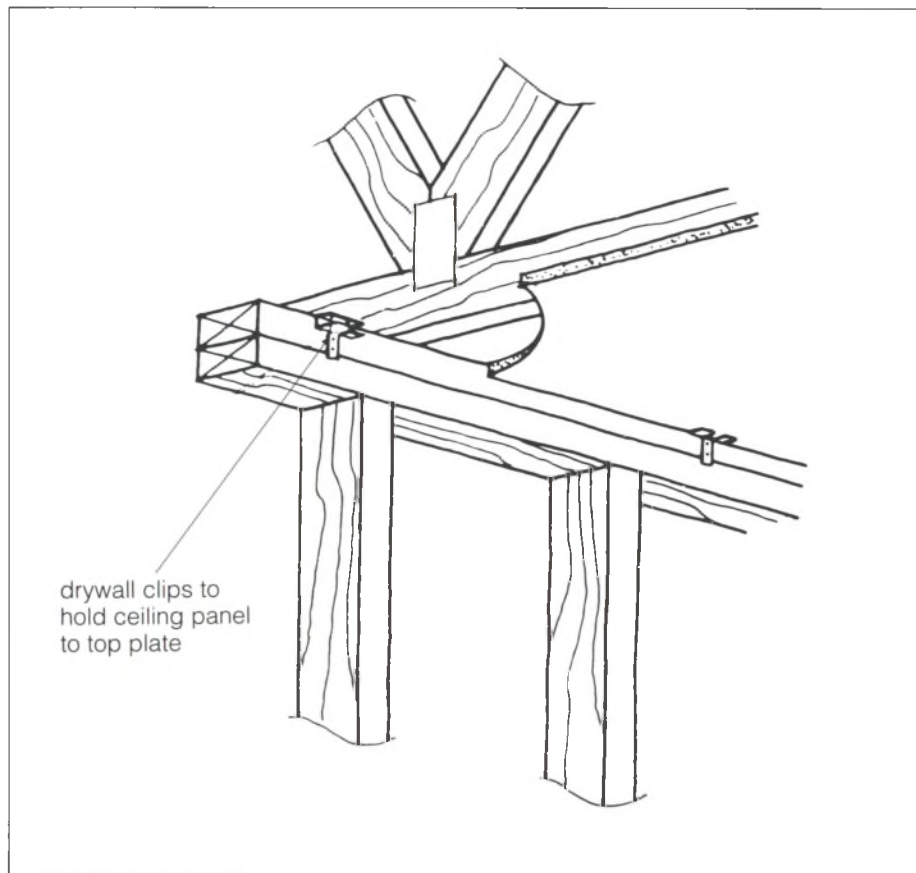

Fig. 9. Drywall clips
- Reduce the stress on corner joints by holding the ceiling drywall to the top plate with drywall clips, with wood blocks or with wider top plates and strapping. Drywall clips can be attached to the ceiling drywall or to the wall framing before the drywall is installed. Clips are usually spaced at 600 mm (24"). Consult manufacturers for recommended installation practices (*fig. 9*). Some builders have also used cornerbead to hold down the ceiling boards